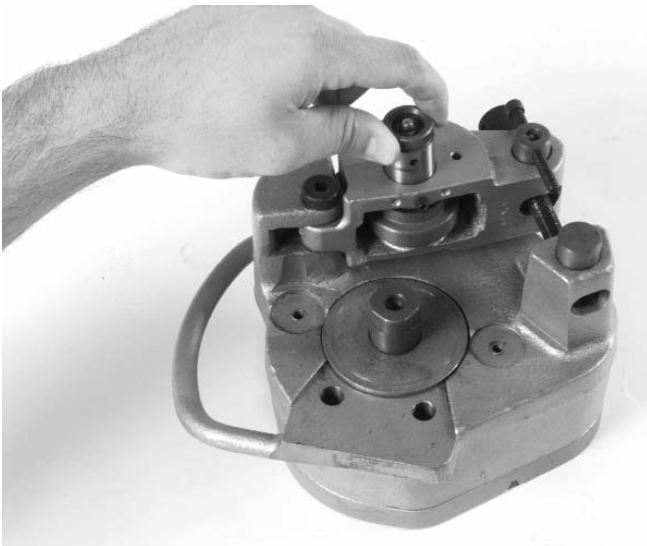

Figure 11 – Inserting Groove Roll Shaft
3. Look through the groove roll shaft hole and align the groove roll and thrust washers with the hole. Insert groove roll shaft (Figure 11).